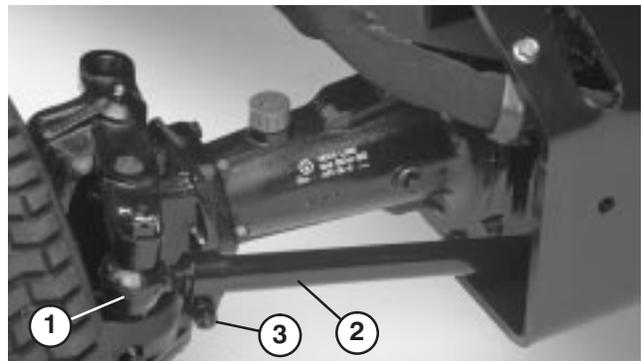

Figure 59
2. Remove cotter pin and nut securing one tie rod ball joint to mounting bracket on axle and disconnect ball joint from axle (Fig. 59).
3. Loosen screw on tie rod clamp (Fig. 59). Rotate ball joint in or out to adjust length of tie rod.